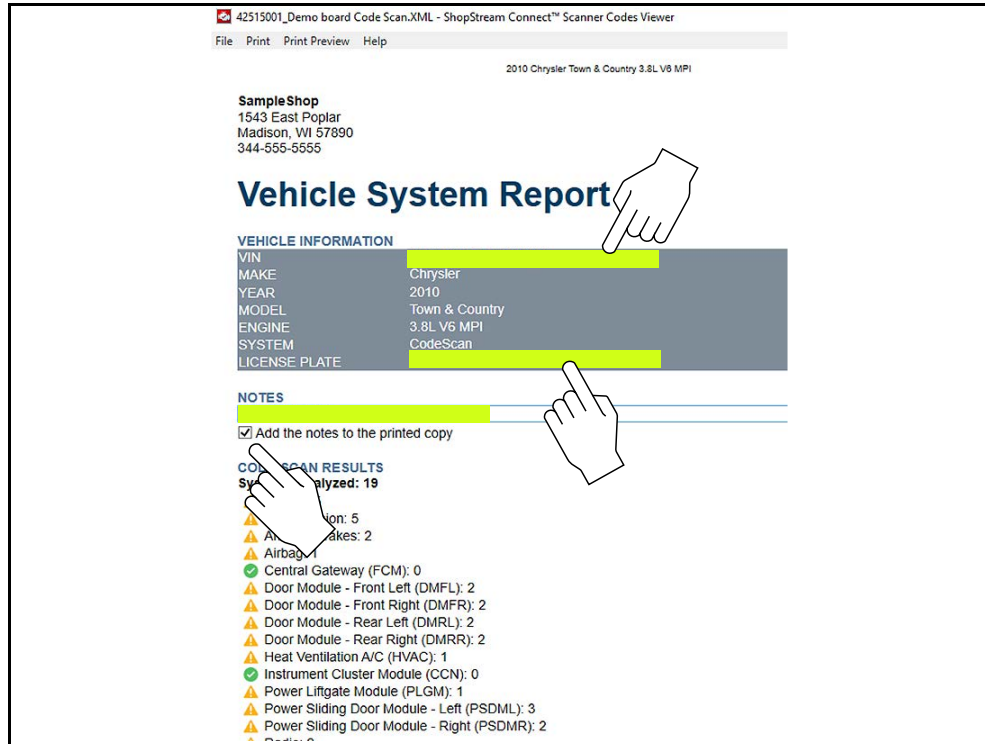

Figure 15-10
1. From ShopStream Connect, open the code scan .XML file to be edited (Figure 15-10).
2. Click in the editable fields as shown in (Figure 15-10) to change the values or add notes.
3. Check the “**Add the notes to the printed copy**” box to show the notes in the printout (Figure 15-10).